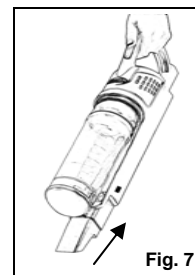

Fig. 7
3. Insert the crevice tool into the bottom of the vacuum making sure that it snaps into place. (Fig. 7) To remove the crevice tool, press the motorized brush/crevice tool release button.